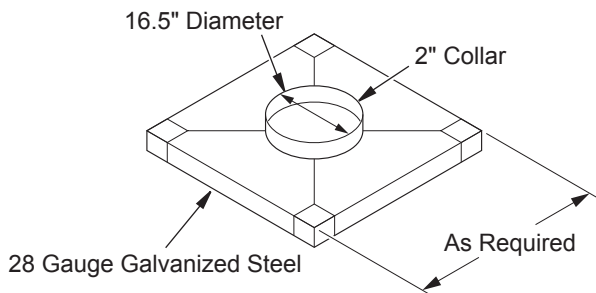

Figure 2 - Constructing Chase Top Flashing
- Fabricate a flashing having a 16.5" diameter hole centered over chimney end with a 2" collar around hole (see Figure 2). Attach noncombustible spacers at each corner and place flashing over chase.